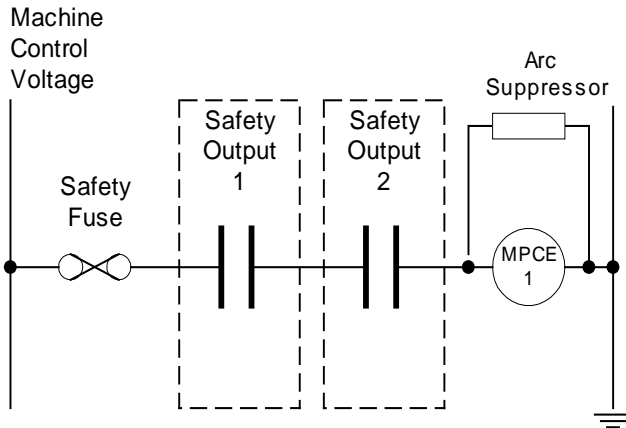

Figure 40 - Interfacing a Machine with 1 MPCE
- Normal risk machine - These usually have a single MPCE. In this case both normally open safety outputs should be used together as shown in **Figure 40**.
To protect the contacts of the safety output relays from the effects of switching inductive loads, an appropriately rated power factor correction device must be installed across the MPCE coils. **Figures 40 and 41** show Arc Suppressors used for this purpose. Arc Suppressors are user supplied.
SAFETY FUSES: It is good practice to protect the safety relays against welding due to a current surge. This can be done by current limiting designs in the machine's controls, or by simple fusing as shown in **Figure 40 and 41**. The current through the safety output contacts should be limited to a level below that